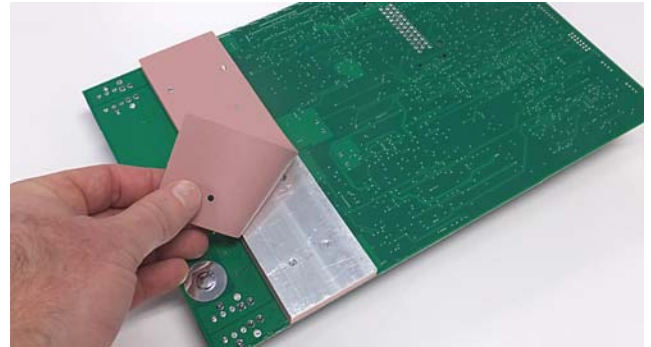

Fig. 4
4. Using a small amount of instant adhesive, adhere the thermal heat sink pad to the back side of the new circuit board (Figure 4).